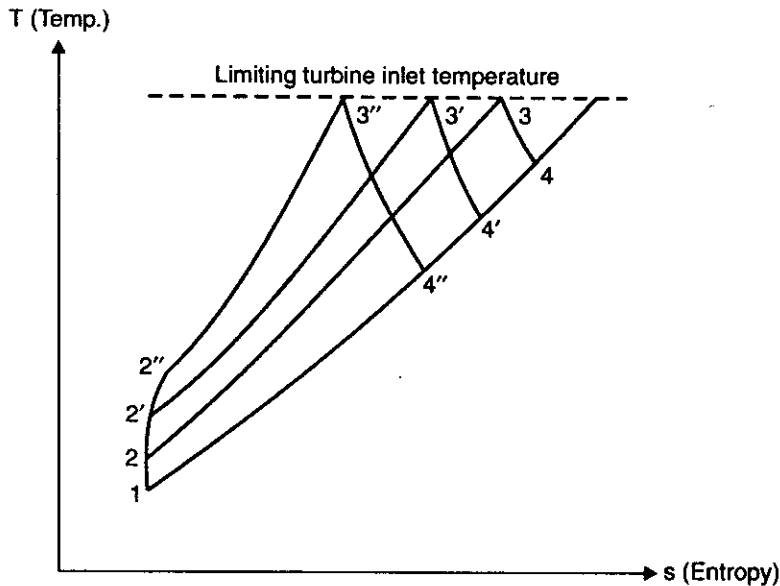

Fig. 5.18
- Refer Fig. 5.18. For a given turbine inlet temperature, as the pressure ratio increases, the heat supplied as well as the heat rejected are reduced. But the rate of change of heat supplied is not the same as the rate of change heat rejected. As a consequence, there exists an optimum pressure ratio producing maximum thermal efficiency for a given turbine inlet temperature.